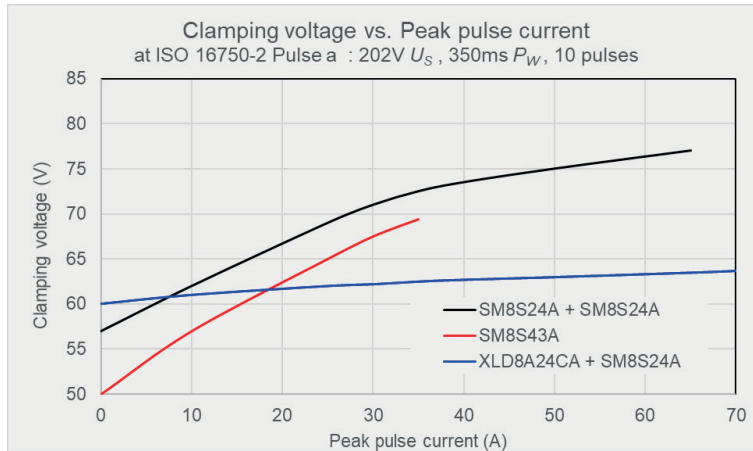

Fig.2-6: Clamping Voltage vs. Peak Pulse Current
(1) The XLD8A24CA and SM8S24A in series can clamp under 65 V at a 70 A peak pulse current (Fig.2-6), which can be applied to a single pulse ISO16750-2: 2012 test condition - 202 V, 350 ms, and 2  $\Omega$  condition (Fig.27).